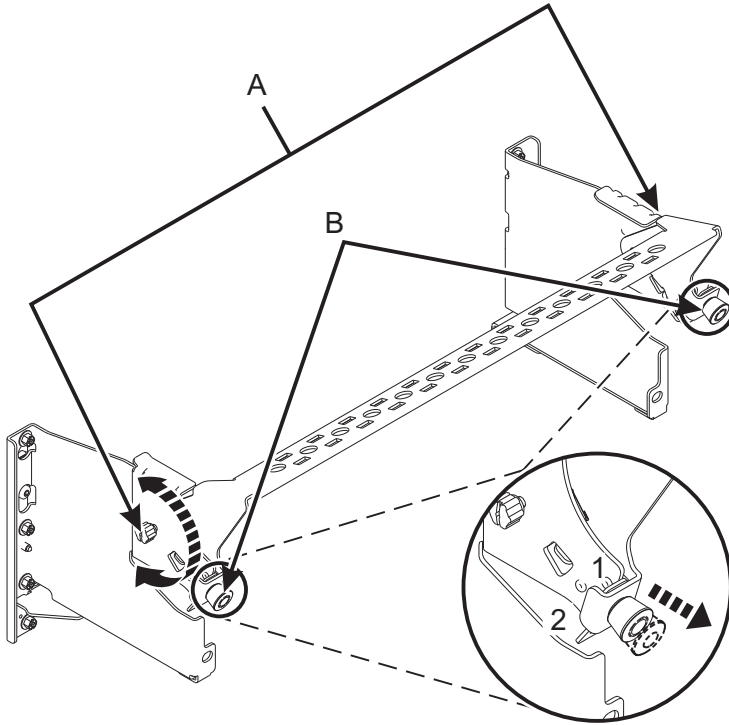

Figure 34. Placing the cable management bracket in the service position
4. Put the cable management bracket in the service position. See Figure 34 on page 33.